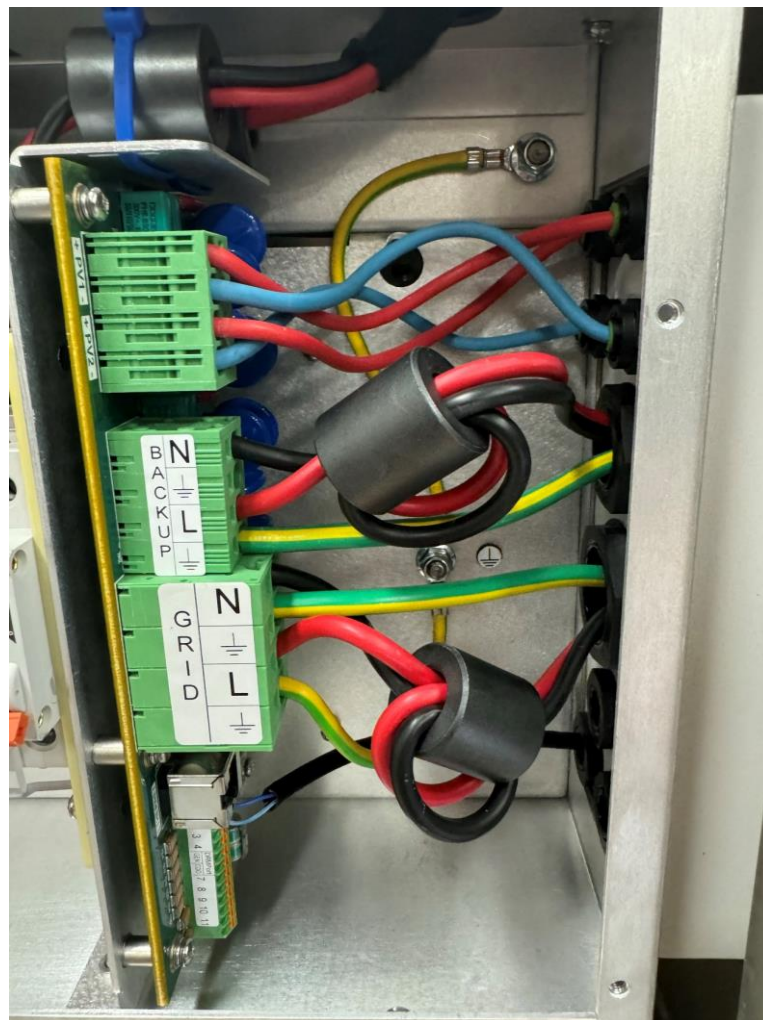

Figure 16 - Grid and Backup Connections
1. Use minimum 4mm^2 cable for the backup and connect to the terminals as shown in Figure 16 - Grid and Backup Connections.